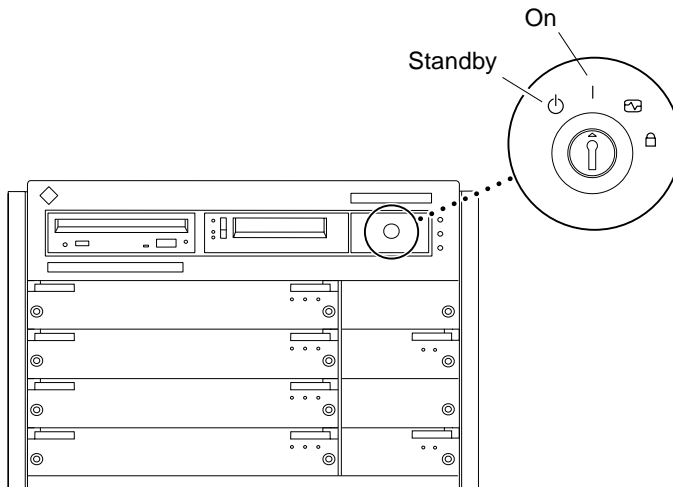

FIGURE 12 Keyswitch Standby and On Positions
1. Ensure that the keyswitch is in the Standby position (FIGURE 12).